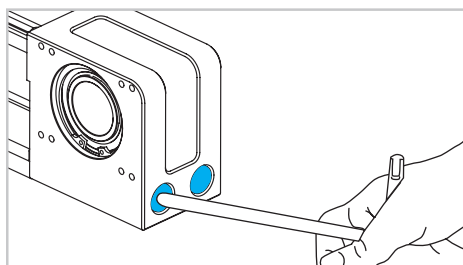

Fig. 7
- 4) For sizes 80 and 100 unscrew the two screws on the head extremity (fig. 7).